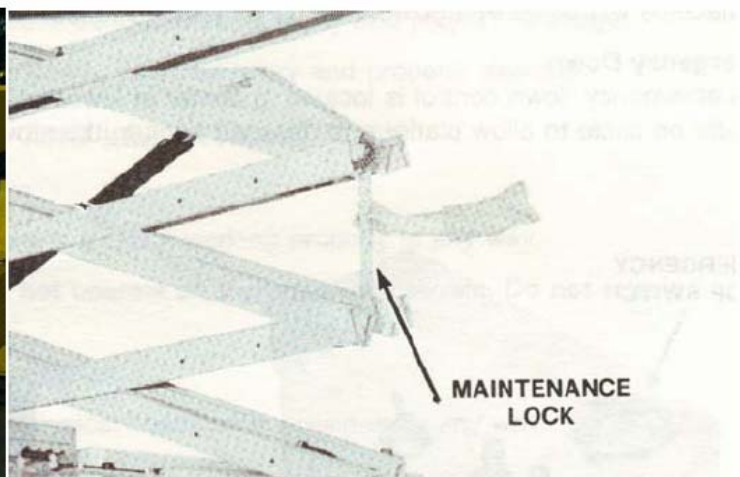

Figure 3. Positioning Maintenance Lock
3. Maintenance lock is located at the rear of the unit between the inside beam assemblies. With machine raised part way, lift maintenance locks and lower machine so that pivot pins are resting on maintenance lock (Figure 3).